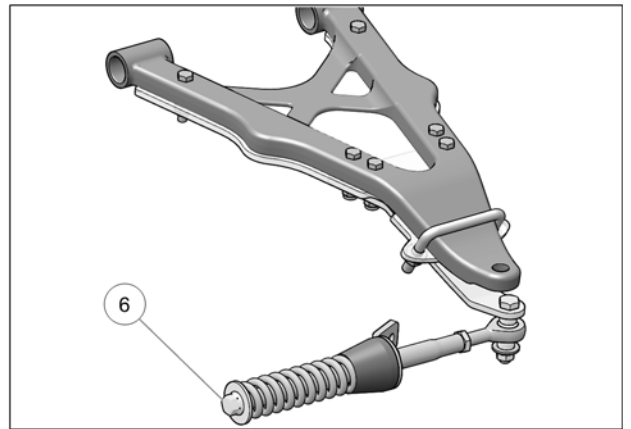

Fig. 21
11. Verify that spring assembly bolt (6) is tightened to the recommended torque specification: 75 N•m [55 lb•ft]. See Fig. 21